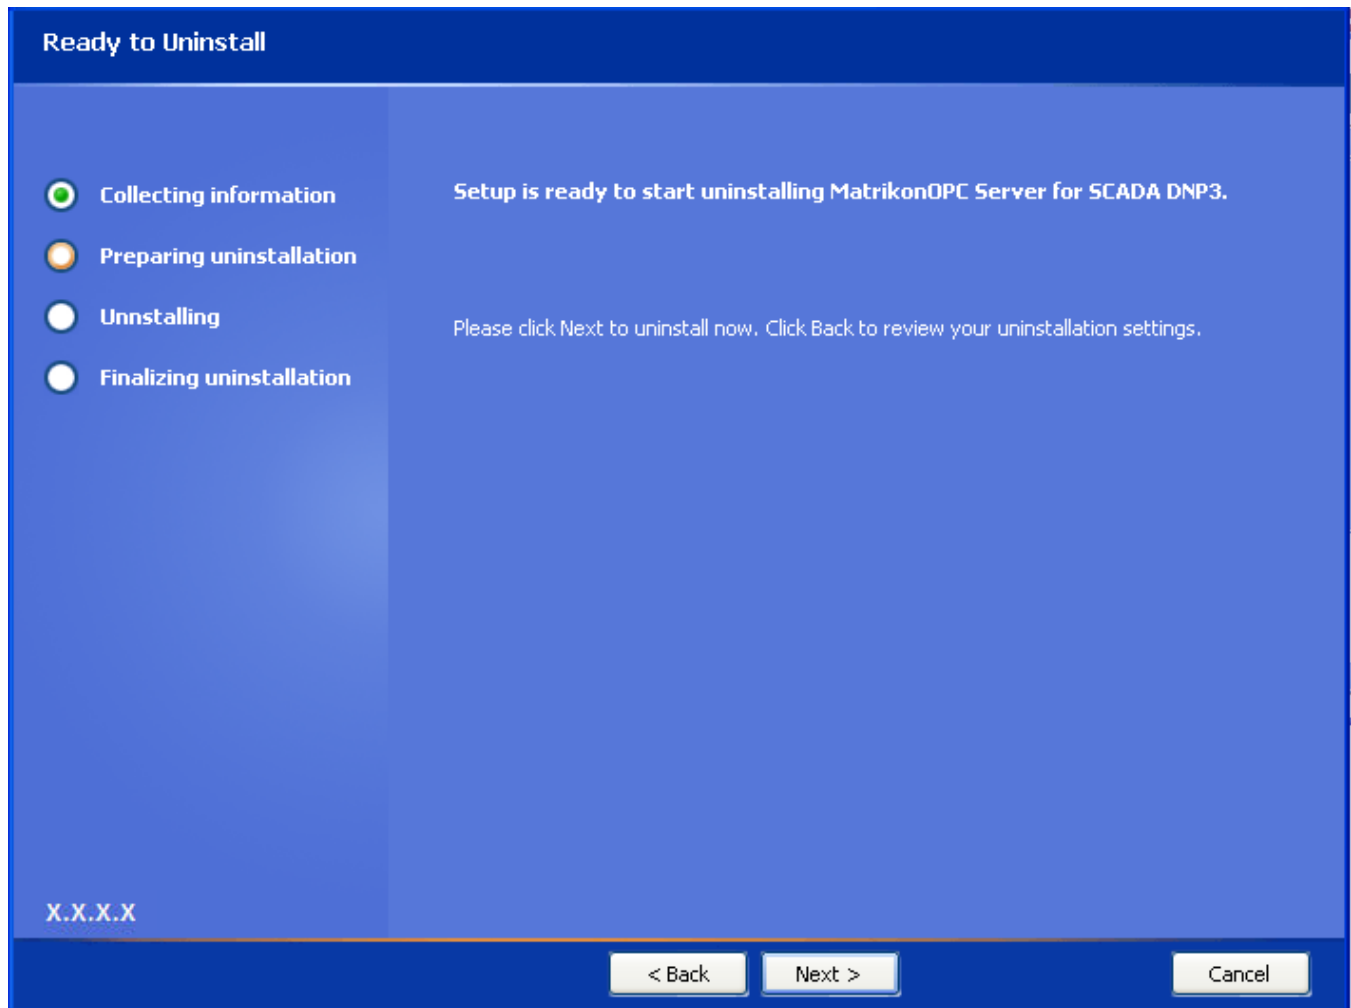

Figure 58 - Ready to Uninstall Screen
8. Click on the **Next** button. The **Ready to Uninstall** screen (Figure 58) is displayed.